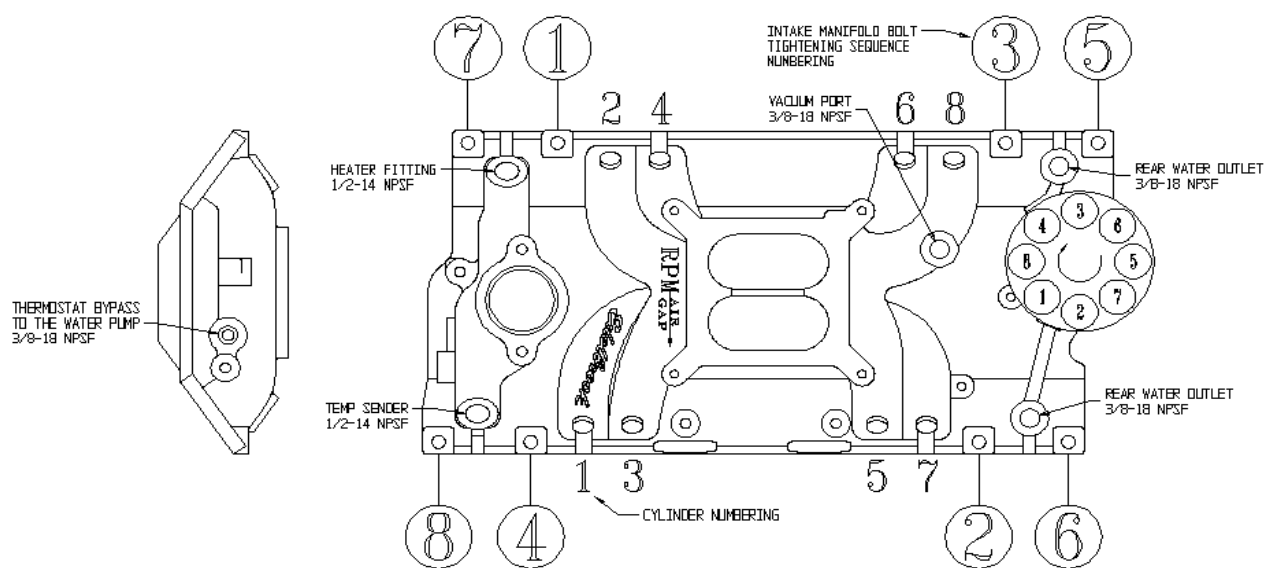

FIG 1 - Intake Manifold Bolt Tightening Sequence,
- 5) Install the intake manifold bolts. Apply Loctite 242 to the intake bolt threads. Carefully tighten the intake manifold bolts evenly until the intake manifold has compressed the o-ring section of the gasket. Torque all of the manifold bolts in the sequence shown in Figure 1 to 11 ft/lbs.
2. Position stools on air cleaner at front, rear, each side and on center stud. See Figure 1.